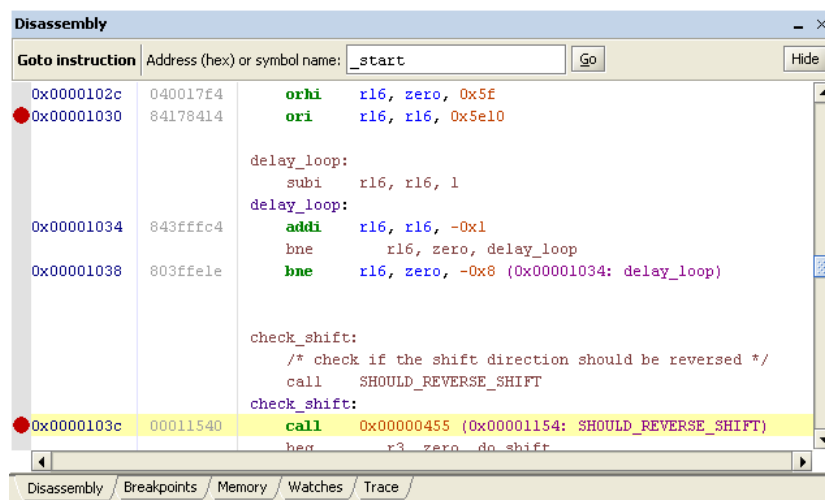

Figure 44. Disassembly window display after setting breakpoints.
- Run the program until the breakpoint at 103c is triggered. Your **Disassembly** window should look similar to Figure 44 with the breakpoints set and the instruction at 103c highlighted.